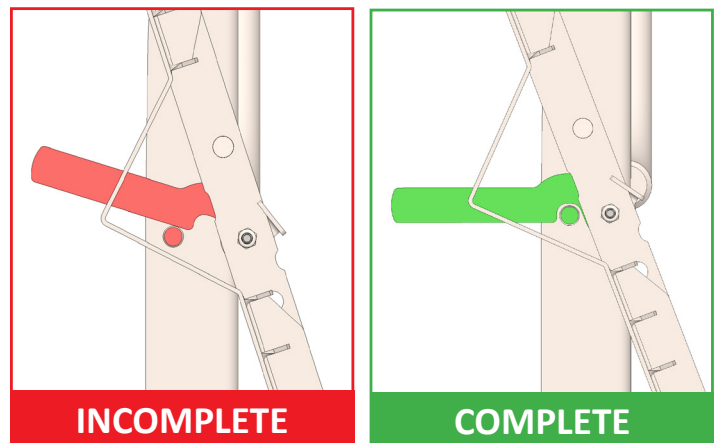

Fig. 10.2: Grate Latch Orientation
3. Latch into place against the pin attached to the corner rail [Figure 10.2].